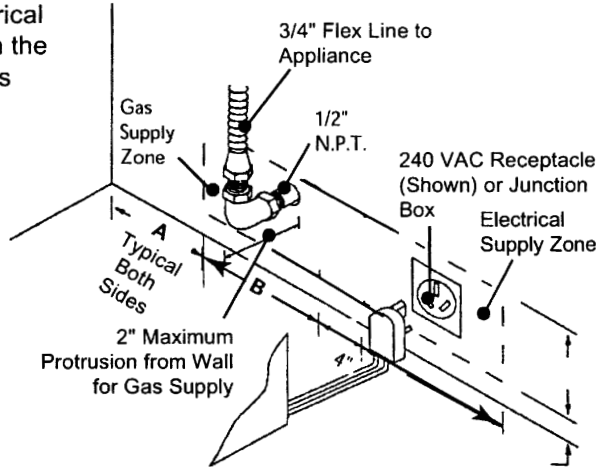

Figure 2A
3. The gas and electrical supply should be within the zones shown in Figures 2A or 2B on page 12.
Use 3/4" flex line to connect between the gas supply and the appliance manifold pipe, which exits the upper left rear of the appliance. The appliance manifold pipe connection is 1/2" NPT (see Figures 2A, or 2B on Page 12.) Use caution to avoid crimping the 3/4" flex line when making bends.